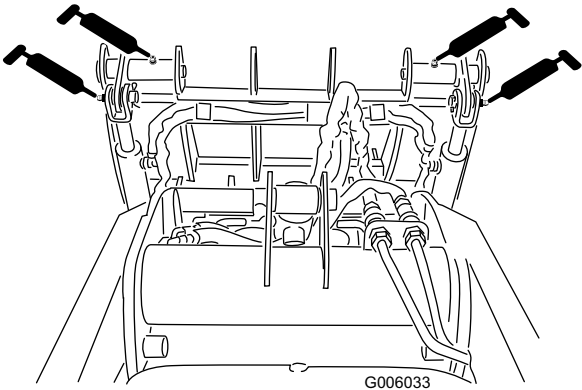

Figure 6
3. Connect a grease gun to each fitting (Figure 6).